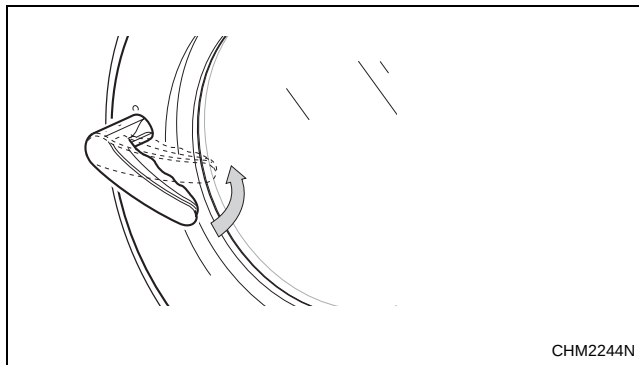

Figure 9
4. Close door and turn handle counter clockwise. Refer to *Figure 9*.